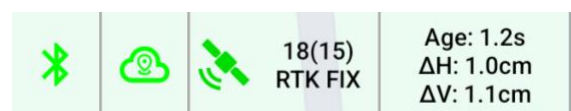

Figure 3
- The status bar should look like Fig.3 within a few minutes.  $\Delta H$  and  $\Delta V$  represent the positional accuracy in cm.